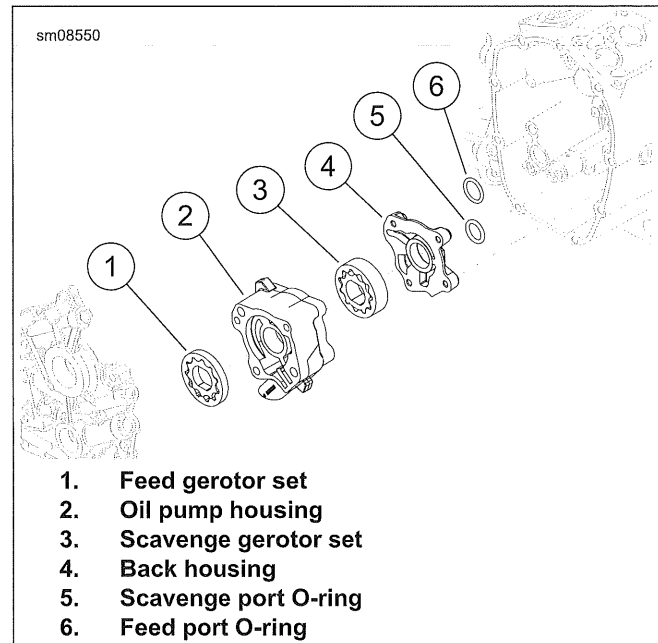
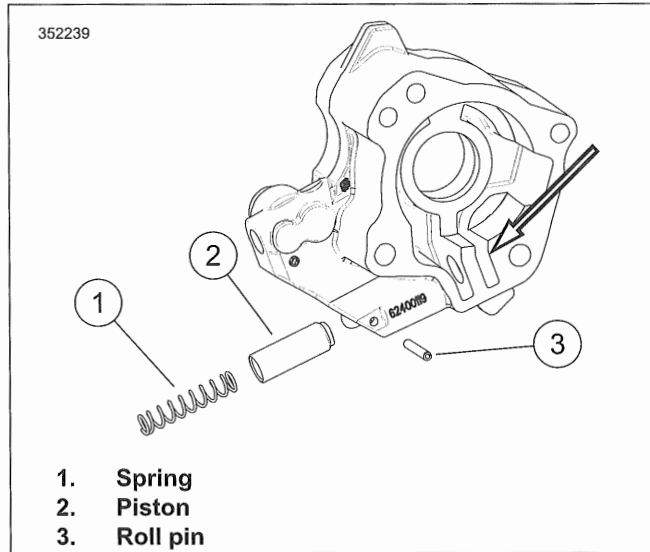
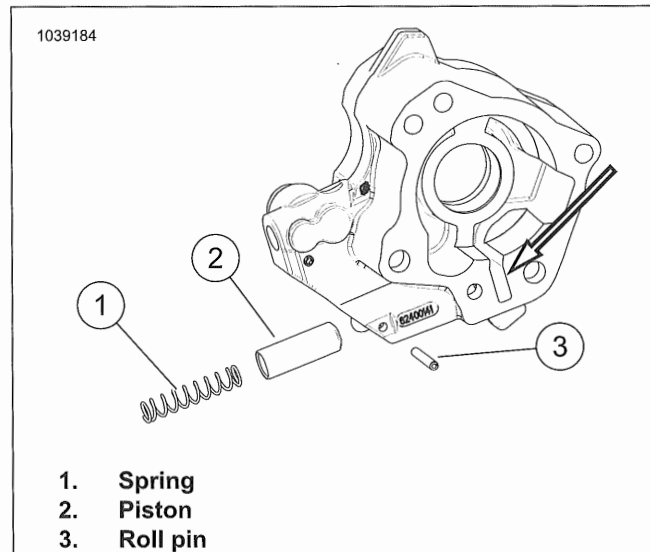

Figure 4-56. Oil Pump
Figure 4-57. Oil Pressure Relief Valve: Early Production
Figure 4-58. Oil Pressure Relief Valve: Late Production
2. See Figure 4-56. Discard O-rings (5, 6).
1. See Figure 4-56. Remove gerotors.
2. See Figure 4-57 and Figure 4-58. Remove pressure relief valve.
- a. Hold spring (1) compressed.
- b. Drive out roll pin (3).
- d. Remove spring and piston (2).
- d. See Figure 4-56. Inspect for grooves or scratches on the cam support plate and back housing (4).
See arrow in Figure 4-57 and Figure 4-58. Oil pump design changed as a running change. Early pumps have two passages near the relief valve while late pumps have one passage.
7. See Figure 4-56. Assemble the oil pump.
- a. See Figure 4-57. Apply a film of SCREAMIN' EAGLE ASSEMBLY LUBE to piston (2) and bore.
- b. Install piston and spring (1).
- c. Hold spring compressed and install roll pin (3).
2. See Figure 4-56. Install back housing (4) and scavenge gerotor set (3) on crankshaft.
3. Install **new** O-ring (5) in scavenge port of crankcase.
5. Slide oil pump housing (4) onto crankshaft while fitting scavenge port into O-ring.
6. Install the feed gerotor set (1).
7. Install **new** O-ring (6) in the feed port of crankcase.